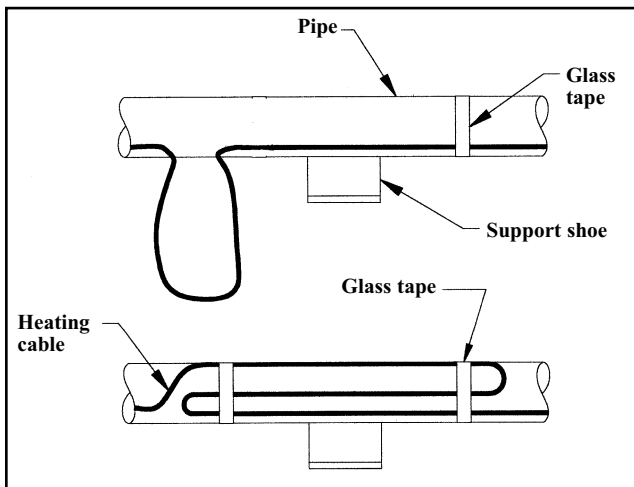

Figure 5.4(e). Welded pipe support shoe (top view)
a) Self-regulating type heating cables are permitted to touch or overlap when wrapping heat sinks, as shown in Figures 5.4(a) through 5.4(d).